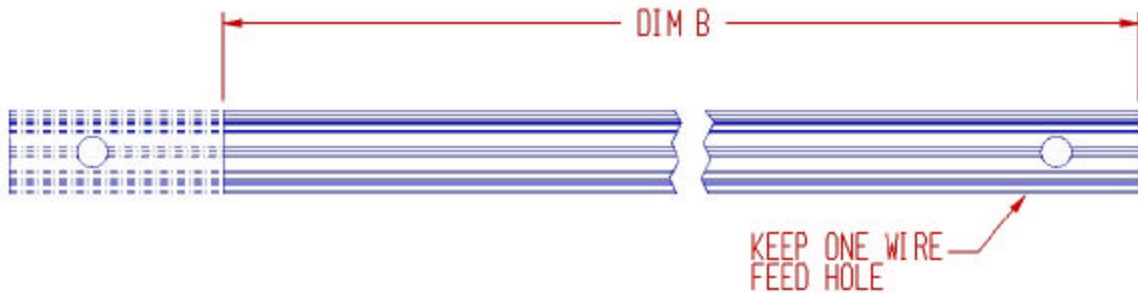

Figure 2b
7. Place the Main Support on a horizontal surface in an appropriate work area. Measure and mark off the Dimension B onto the Main Support (see Figure 2b). Then make one cut through the cross-section of the Main Support using a tool appropriate for cutting aluminum. Cut only from one end, as it is important to retain a wiring feed-through hole in the Main Support section to be installed.
27. Identify, measure and record all spaces on the Main Support between Lamp Modules and the Power Junction Module (see Figure 2b).